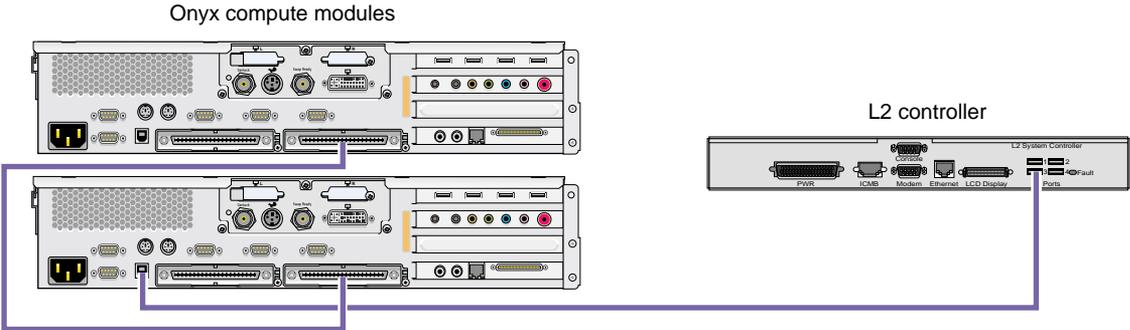
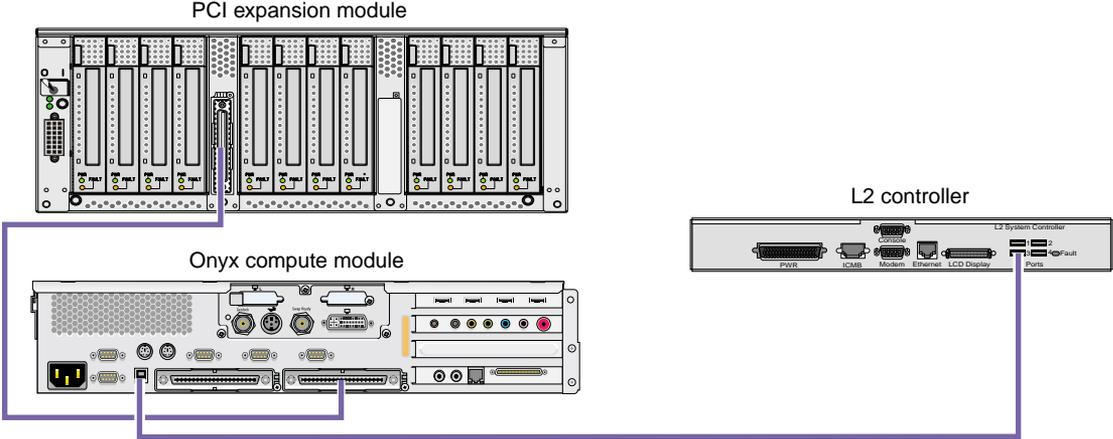

Figure 2-8 Onyx 350 Compute/Graphics Module Connections to Optional L2 Controller
Figure 2-9 4U PCI Expansion Graphics System Connection to Optional L2 Controller
If your system does not have a NUMAlink module, the Onyx 350 compute/graphics modules connect directly to the L2 controller (see Figure 2-8).
Figure 2-8 shows how the Onyx 350 compute/graphics modules in an InfiniteReality graphics system that does **not** contain a NUMalink module connect to an L2 controller. The top module communicates with the L2 controller via its NUMalink connection to the bottom Onyx 350 compute/graphics module. Likewise, if a system contains one compute/graphics module and one 4U PCI expansion module, the 4U PCI expansion module connects to the L2 controller via its NUMalink connection to the Onyx 350 compute/graphics module as shown in Figure 2-9.
3. Ensure that the power switch on any optional DC-powered 4U PCI expansion module that you want to power on is set to the On (I) position. The power switch is located in the upper-left corner of the module (see Figure 2-9). This switch enables the L1 controller of the DC-powered 4U PCI expansion module(s) to power on after you turn on the circuit breaker of the PDU.